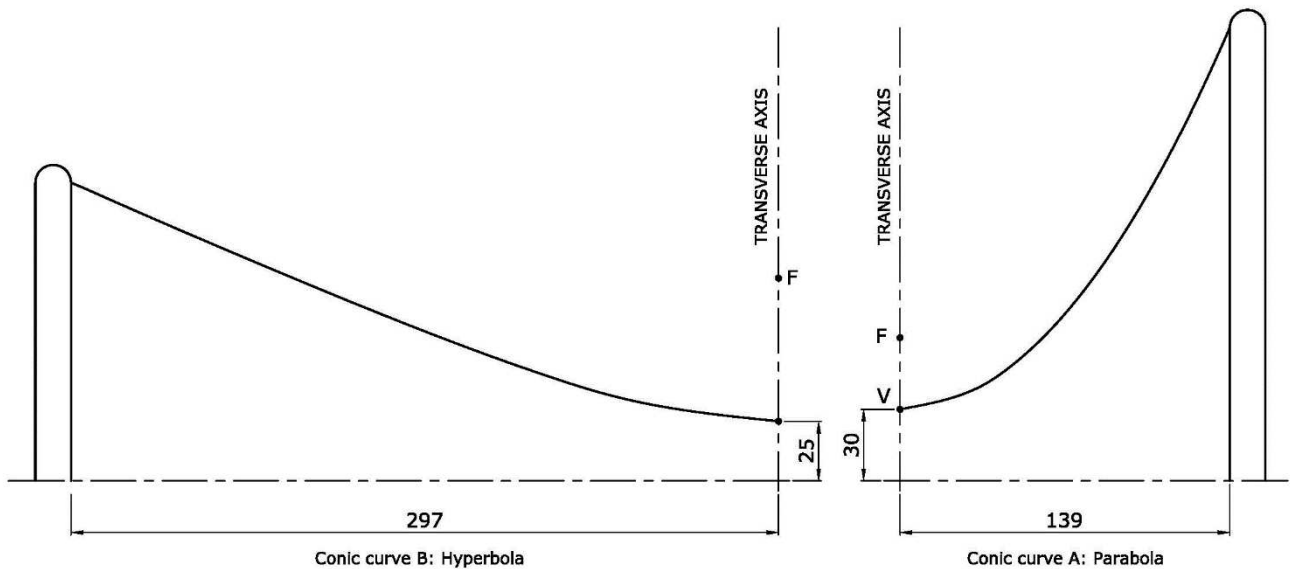

Figure 1b
- i. the front conic curve A, which is a parabola, using the directrix, axis and vertex shown in Figure 1b. State the eccentricity of the conic and locate the position of the focus. (4)
- ii. the other end of the trumpet, curve B, which is a hyperbola, using an eccentricity of 6:2.5, the directrix, axis and vertex as shown in Figure 1b. (8)
- b) Define ratio of eccentricity. (1)